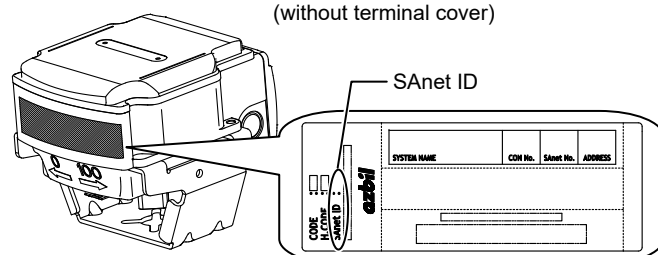

Figure 20. SAnet ID on the product code label
2. With Data Setter or PC-MMI, enter the SAnet ID (on the product code label) and address number to set. The product code label is attached on the side surface of the actuator, as shown in Fig. 20.